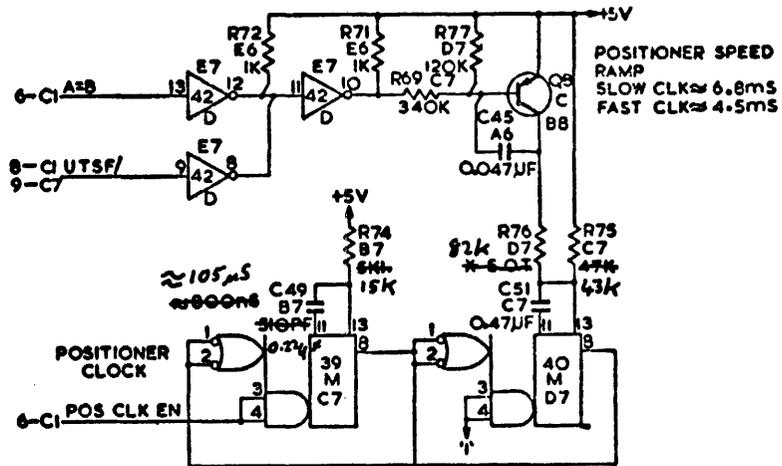

FIGURE 3
8. Update the schematic as shown in figure 3.